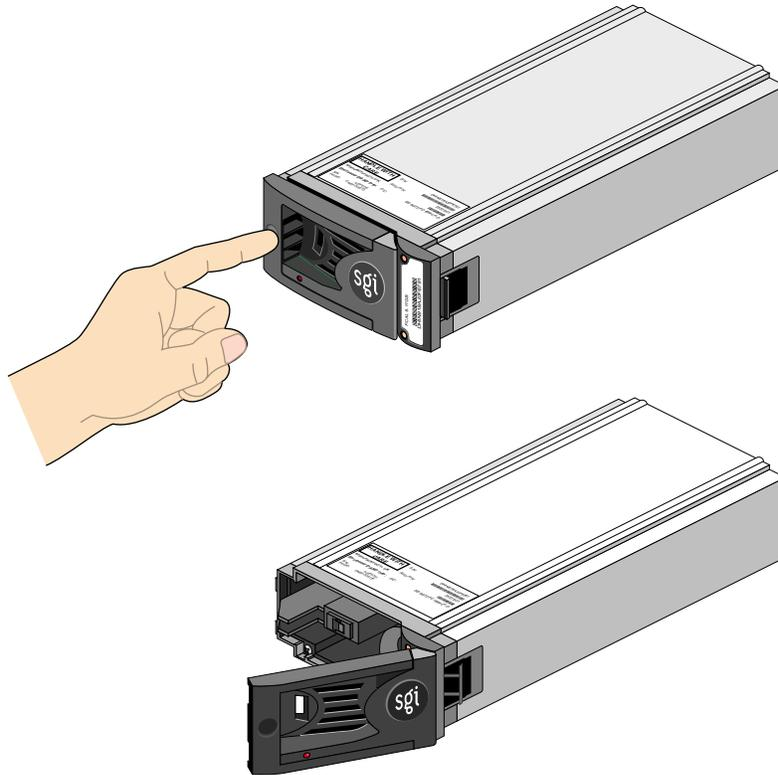

Figure 8-15 Releasing the Module Handle
4. Release the disk drive module handle by pressing on the small indentation on the left of the module front (see Figure 8-15).